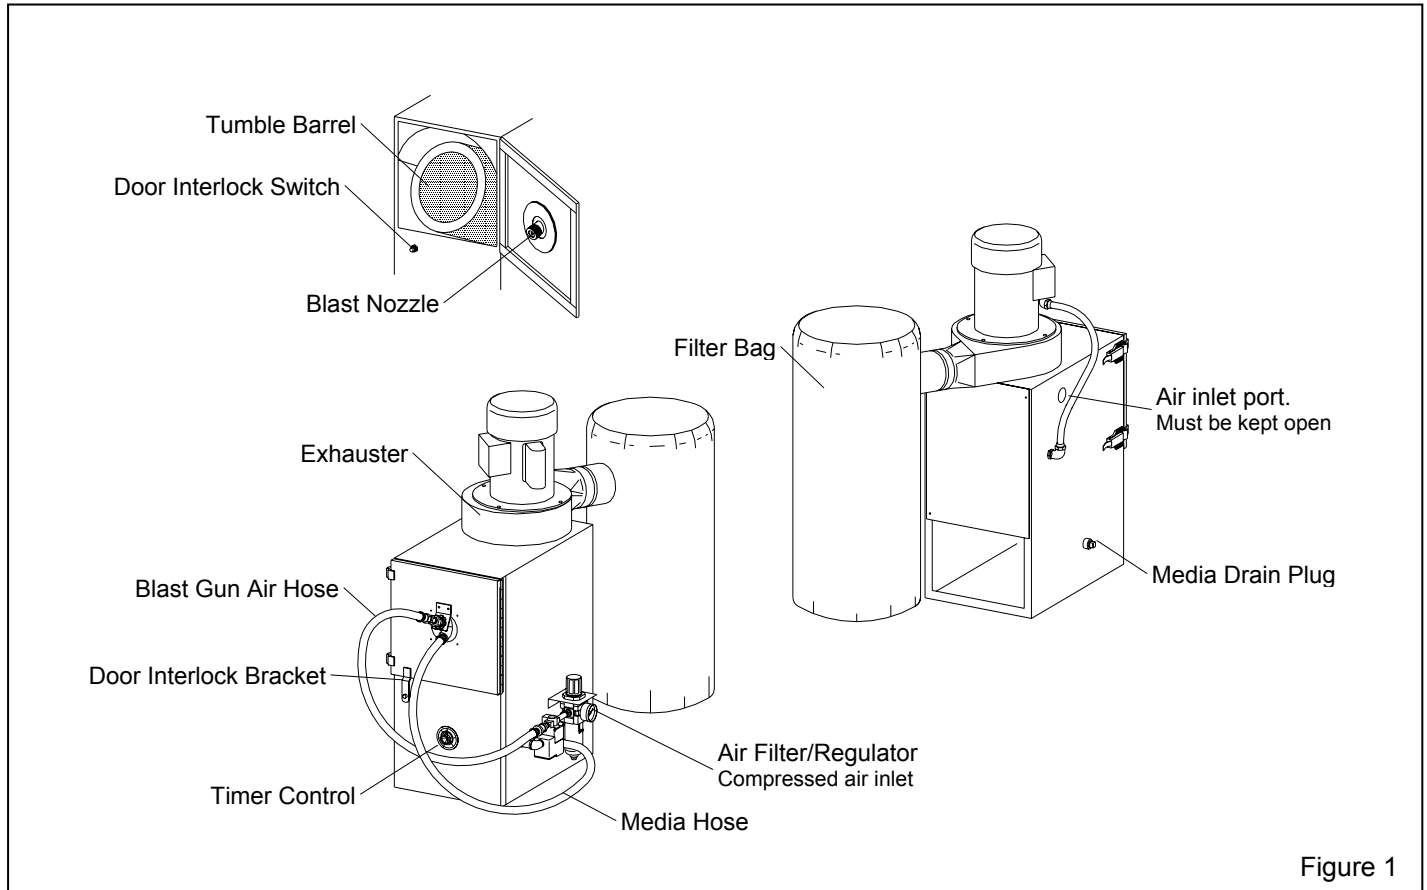

Figure 1
**1.3.1** The DCM-161 tumble cabinet blasts small batches of parts, using a fixed nozzle and rotating barrel. See Figure 1 for arrangement and call outs of primary components.